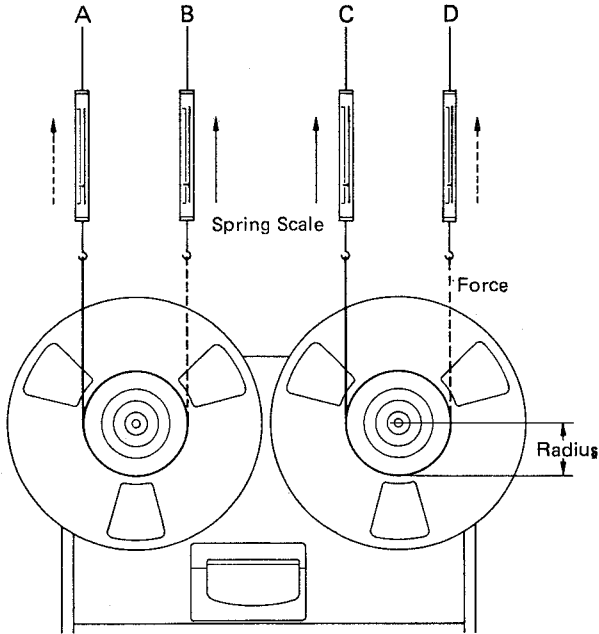

FIG. 13. BRAKE TORQUE MEASUREMENT
1. Mount an empty 10-1/2" reel onto either reel table and attach a spring scale to the reel with a string. See Fig. 13.
2. Smoothly pull the scale away from the reel under test and note the torque value when the reading on the scale is steady. Take the four measurements A through D shown in Fig. 13. The proper torque values are shown in table below.
Forward Torque; B & C in Fig. 13	2300 – 2700 g-cm (32.0 – 37.5 oz-inch)